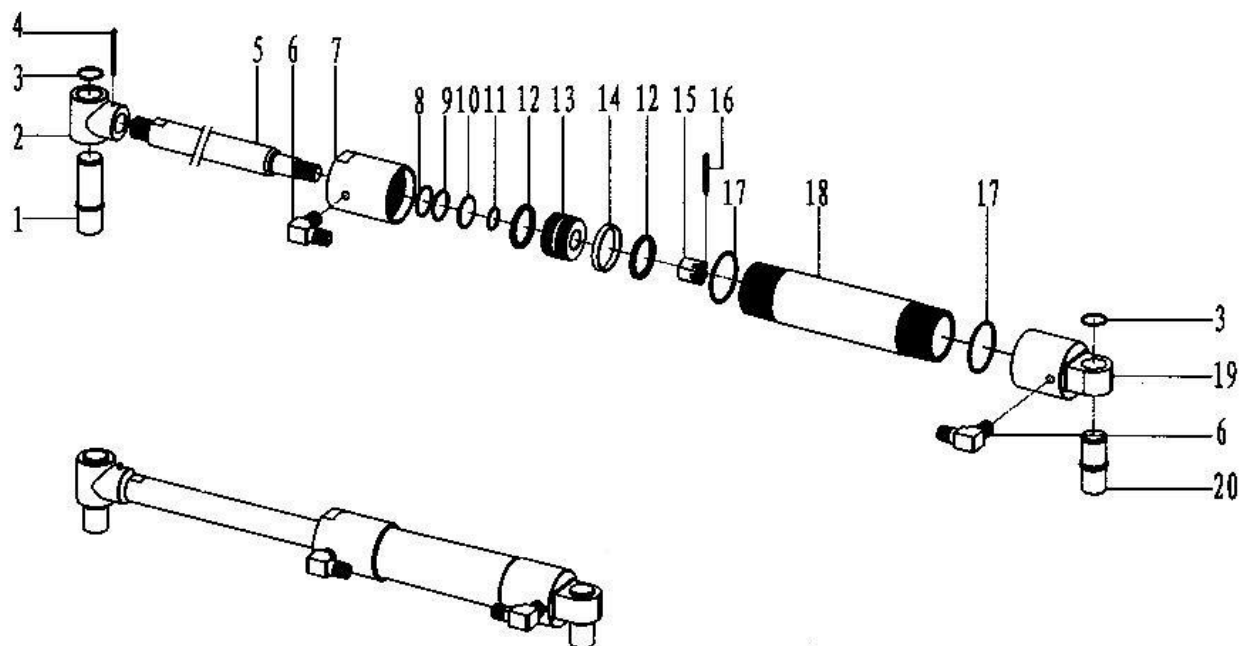

Fig 26
7.26 Clamp cylinder assembly (Fig 26, Table 26)